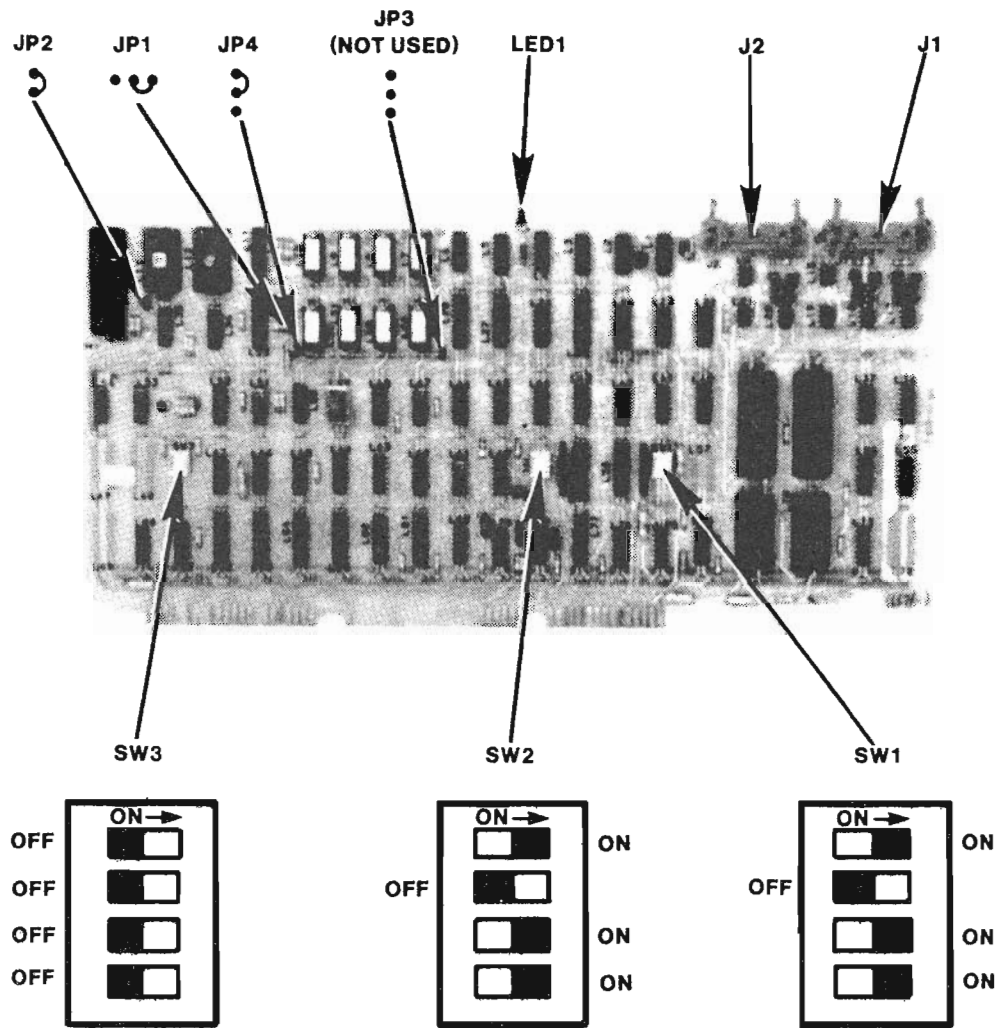

Figure 2. Option W Board Jumper and Switch Locations
5. As shown in Figure 2, set switches on the 7846 board as follows:
6. Check that the jumpers on the 7846 board are configured as shown in Figure 2.
11. Power ON the system. The 7846 option W board is equipped with a power-up diagnostic. The power-up diagnostic run time is approximately six seconds. LED 1 at the top of the 7846 board (See Figure 2) indicates a GO or NO GO diagnostic condition as follows.